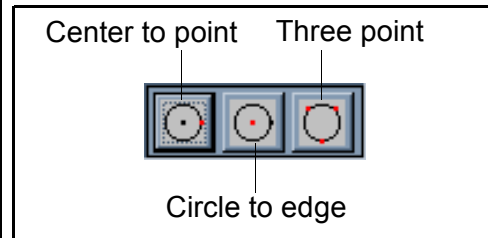

Figure 3.9 *Circle types*
- **Select** one of the three circle types shown in *Figure 3.9*.